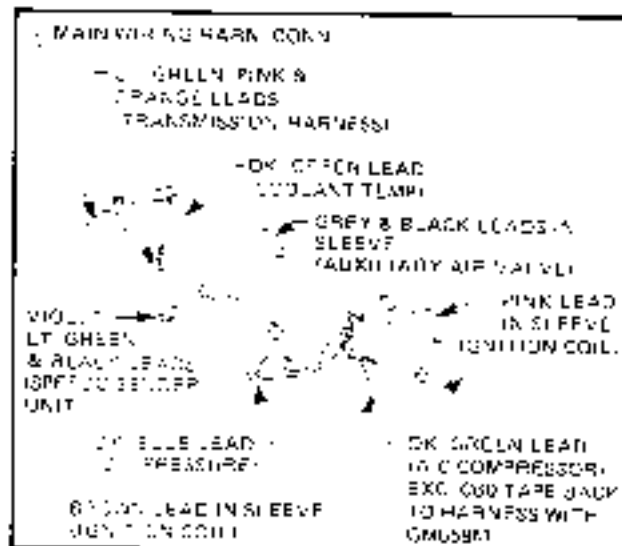

Figure 6A-25
17. Disconnect auxiliary air valve hose from inlet manifold. Disconnect throttle cable from bracket, and if so equipped, cruise control power unit cable from throttle body and vacuum hose from vacuum adaptor as rear of inlet manifold. Refer Fig. 6A-26.